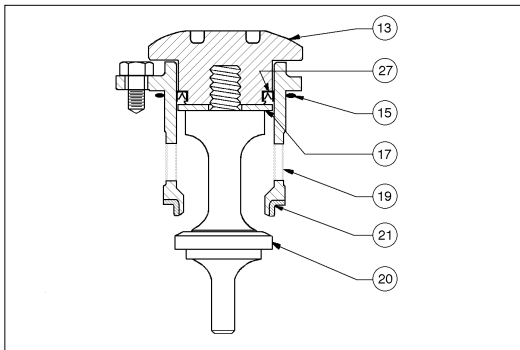

Figure 3: Assembled ITA, Metal Diaphragm Construction
- e. Remove wiper seal (16), if supplied, from within cage (19).
- f. Remove wiper washer (17.1) or camber adjusting washer (17.2), if supplied, from within cage (19).
- g. Remove o-ring lower stem seal (14.3) from plug (20).
- h. Remove seat ring (21); examine for signs of leakage. If seat ring (21) shows signs of significant leakage, determine if operating conditions of pressure, pressure drop, or temperature are exceeding limits.
2. Units with Metal Diaphragm(s) (See Figure 3):
2. Position piston-guide bearing (13) over and into upper end of cage (19) until the cap seal (27.1) edge touches the upper lip of the cage (19). While gently applying force to press the piston-guide bearing (13) into the cage (19), simultaneously use fingers to lightly press the u-cup seal (27.3) inwards into the groove of the piston-guide bearing (13) until the u-cup seal (27.3) "slips into" the cage (19). **DO NOT USE TOOLS, LUBRICANT, OR HEAVY FORCE TO ENGAGE THE U-CUP SEAL (27.3) INTO THE CAGE (19).**
4. Place properly oriented seat ring (21) onto its shoulder at the lower end of cage (19).
- a. Place new o-ring lower stem seal (14.3) into groove of valve plug (20).
- b. Insert valve plug (20) upwards through lower end of cage (19) and through the center hole in piston-guide bearing (13), also capturing camber adjusting washer (17.2), wiper washer (17.1) and wiper seal (16), if supplied. Hold plug (20) and cage (19) together.
- c. Place an oversized nut or stack of washers, the same approximate height of the upper diaphragm pressure plate (8) and the lower diaphragm pusher plate (10), over the upper end of valve plug (20) and temporarily secure with diaphragm lock nut (7), manually tightened. Do **NOT** allow valve plug (20) to rotate against seat ring (21) during tightening.
- a. Insert valve plug (20) upwards through lower end of cage (19) and through the center hole of camber adjusting washer (17.2) or wiper washer (17.1) and wiper seal (16).
- b. Engage valve plug (20) with piston-guide bearing (13) threads and tighten manually as far as possible.
- c. Place ITA into a vise with leaded jaws and grasp at a hub location on the valve plug (20) that is not in the "spindle" zone. (See Figure 3.)
- d. Using soft-jawed locking pliers, soft-jawed pipe wrench, or a special double-posted spanner wrench fitting, tighten piston-guide bearing (13) to valve plug (20) firmly. Do **NOT** allow valve plug (20) to rotate against seat ring (21) during tightening.
1. Place body (23) in a vise.
2. Reinstall internal sensing drilled plug (32) with compatible thread sealant.
3. Insert the lower piston spring (22) into the body (23), if supplied.
4. Fit the o-ring cage seal (15) into its body (23) groove.
5. With the ITA held manually in the closed position, insert ITA into body (23).
6. Properly align all three cage bolt (18) holes as there is only one circumferential location possible for this alignment. If a lower piston spring (22) is used, apply downward force to the top of the cage (19) until the ITA is lowered sufficiently to engage the cage bolts (18) into the body (23). Engage all of the cage bolts (18), then evenly screw in the cage bolts in one-half revolution increments to pull down the ITA, taking care NOT TO "COCK" THE ITA IN THE BODY. Torque the cage bolts (18) to 13-15 ft-lbs.